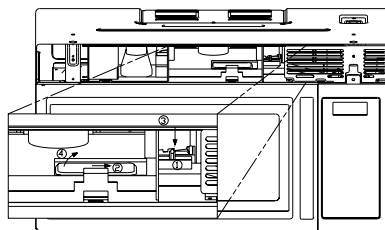

FIGURE 4
4. Pull out the Lamp cover. (See Figure 4.)